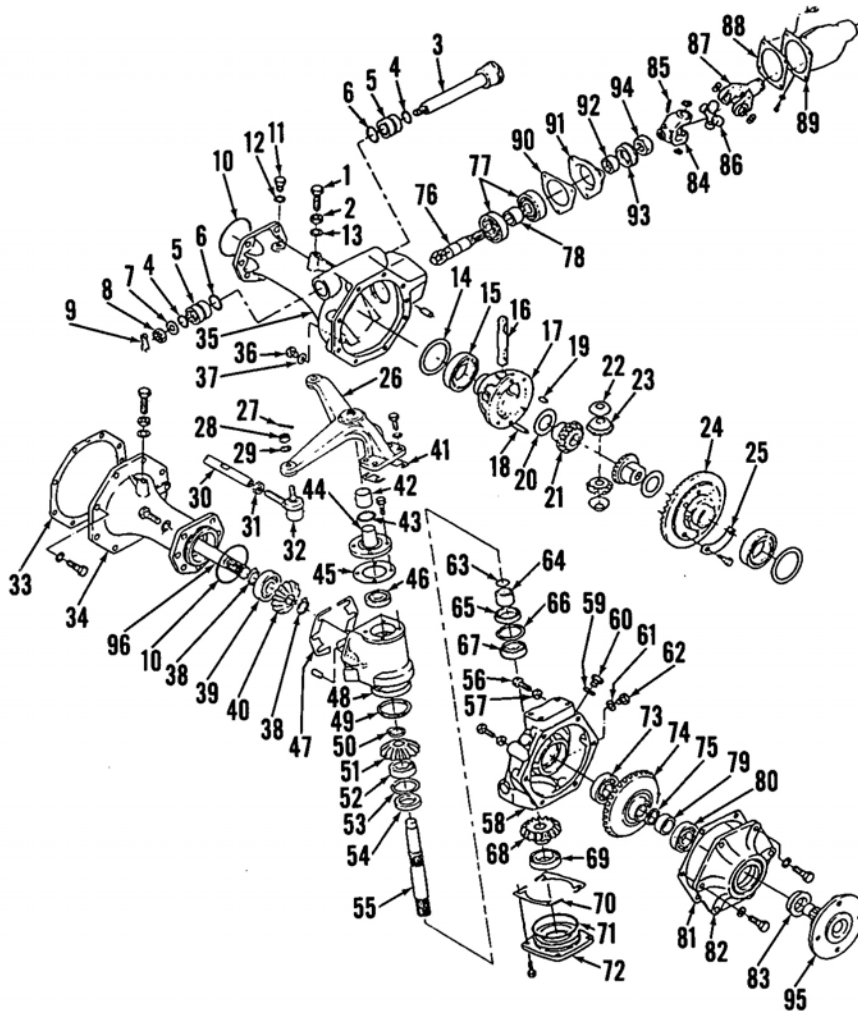
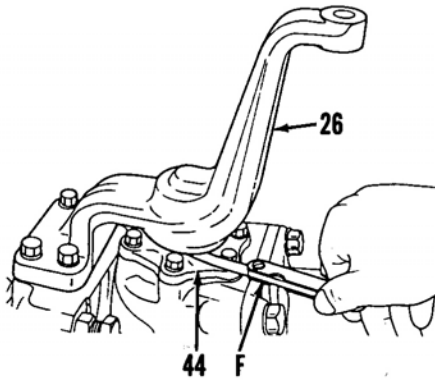
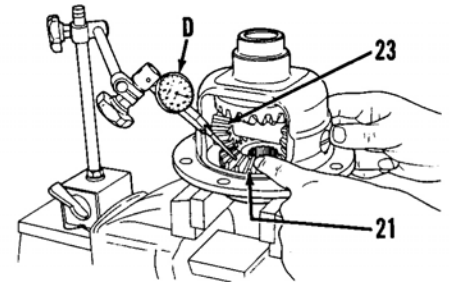
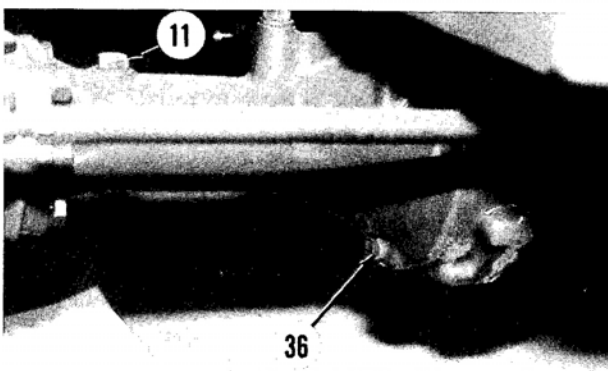

Fig. 5—Exploded view of front-wheel drive axle used on Model B7100HST-D.
Fig. 8 - View showing procedure for measuring clearance between steering arm (26) and support (44) using feeler gage (F). Refer to text.
Fig. 12 - View showing procedure for checking backlash between side gear (21) and spider gear (23) using dial indicator (D). Refer to text.
Fig. 9 - Note location of front-axle drain plug (36) and fill plug (11) used on Model B7100HST-D.
7. R&R AND OVERHAUL. Upper support (king pin) and bushing are accessible after removing steering arm (26 - Fig. 5). Outside diameter of support (44) end should be 25.000-25.033 mm (0.9843-0.9856 inch). Bushing (42) inside diameter should be 25.050-25.085 mm (0.9862-0.9876 inch). Clearance between bushing (42) and king pin (44) should be 0.017-0.085 mm (0.0007-0.0033 inch).
Front-wheel drive assembly includes drive shaft, housing, differential, axle shafts and axle hub assembly. Front-wheel drive power is supplied through transmission assembly and controlled by manually engaging or disengaging FWD select lever. Camber angle, caster angle and king pin inclination are non-adjustable. Rolling angle adjuster screw (1–Fig. 5) should be adjusted to a height of 25 mm (0.98 inch) measured from axle case (35) to top of screw head. Front wheel steering angle adjuster screw (56) (front and rear) should be adjusted to a length of 22 mm (0.86 inch) measured from outer drive housing (58) to top of screw head.
allow lubricant to drain into a suitable container. Detach tie rod end (32—Fig. 5) from steering arm (26). Remove cap screws securing gearcase (48) to axle case (34 or 35). Place a suitable drain pan under end of axle case, then lift complete outer drive assembly from axle case and place on a suitable work bench to complete disassembly. Note shims (47) located between axle case and gear-
gear (68) and bearing (69). Note shims (70). Using a suitable mallet, tap shaft (55) from bottom side to separate outer drive housing (58) from gearcase (48). Remove cap screws securing outer cover (82) to outer drive housing (58), then withdraw outer cover (82) assembly. Complete disassembly of components with reference to Fig. 5.
Tighten cap screws securing outer cover (82—Fig. 5) to outer drive housing (58) to 48-56 N·m (35-41 ft.-lbs.) torque. Tighten cap screws securing support cover (72) to outer drive housing (58) to 24-27 N·m (17-20 ft.-lbs.) torque. Tighten cap screws securing support (44) to gearcase (48) to 24-27 N·m (17-20 ft.-lbs.) torque. Tighten cap screws securing gearcase (48) to axle case (34 or 35) to 77-90 N·m (57-67 ft.-lbs.) torque.
Backlash between gears (40 and 51) and (68 and 74) should be 0.10-0.30 mm (0.004-0.012 inch). Adjustment shims (47 or 70) are available in thicknesses of 0.2, 0.3 and 0.5 mm (0.008, 0.012 and 0.020 inch). Clearance between steering arm (26) and support (44) should be 0-0.2 mm (0-0.008 inch) measured as shown in Fig. 8. Adjustment shims (41 - Fig. 5) are available in thicknesses of 0.2, 0.3 and 0.5 mm (0.008, 0.012 and 0.020 inch).
14. R&R AND OVERHAUL. Remove outer cover, outer drive housing, gearcase and drive components as outlined in paragraph 13. Remove drain plug (36 - Fig. 9) and allow lubricant to drain into a suitable container. Remove cap screws securing left axle case (34 - Fig. 5), then separate axle cases (34 ar. 35). Use care not to allow differential assembly to fall free when axle cases are separated. Lift differential and bevel ring gear assembly (14 through 25) from
To separate bevel pinion assembly, place bevel pinion (76) in a suitable holding fixture, then remove nut (94) from pinion shaft. Complete disassembly with reference to Fig. 5.
Renew all components as needed. Bevel ring gear (24 - Fig. 5) and bevel pinion (76) must be renewed as a matched set.
Reassembly is reverse order of disassembly. Lubricate components with a light film of SAE 80 gear lube prior to installation. Tighten cap screws securing bevel ring gear (24 - Fig. 5) to differential case (17) to 29-34 N·m (22-25 ft.-lbs.), then bend tabs of lock plate (25) over to secure screws. Tighten
Shim (20 - Fig. 5) is used to adjust backlash between side gear (21) and spider gear (23). Mount differential assembly in a suitable holding fixture and measure backlash as shown in Fig. 12. Recommended backlash is 0.20-0.25 mm (0.0079-0.0098 inch). Shims (20 - Fig. 5) are available in thicknesses of 0.8, 1.0 and 1.2 mm (0.031, 0.039 and 0.047 inch). Shims (14) are used to adjust backlash between bevel pinion gear. Recommended backlash is 0.1-0.2 mm (0.004-0.008 inch). Shims (14) are available in thicknesses of 0.2, 0.3 and 0.5 mm (0.008, 0.012 and 0.020 inch). Recommended pinion shaft end play is zero. Shims are available to adjust mesh position. After adjustment, add shims under retainer plate until zero end play is attained.
Reassemble outer cover, outer drive housing, gearcase and drive components as outlined in paragraph 13. Remove plug (11 - Fig. 9) and refill differential case with 1.5 liters (1.6 U.S. quarts) of SAE 80 gear lube. Reinstall and tighten plug (11).